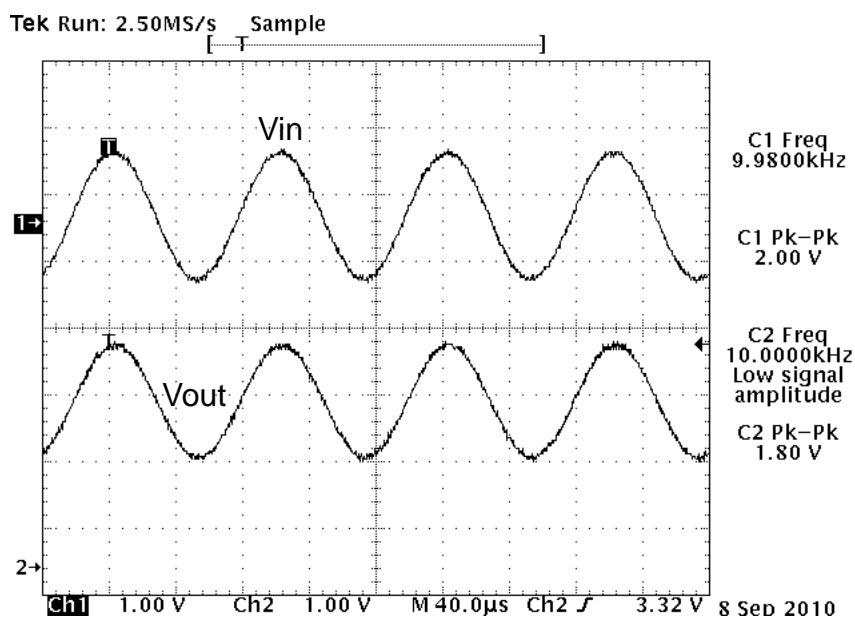

Figure 12. Circuit 2 waveform ($V_{in} = 2\text{ Vpp}$, 10 kHz)
7. Figures 12–16 show various analog signal responses of Circuit 2.